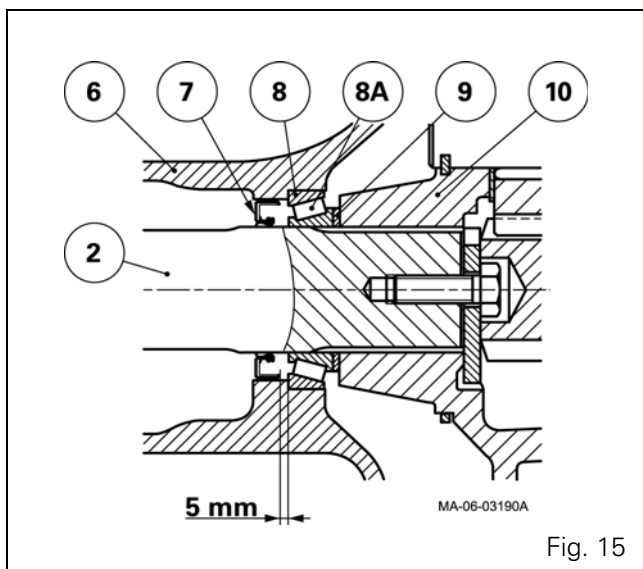

Fig. 15
With shaft replacement (2): position the seal 5 mm from the shoulder of the cup (8) (Fig. 15).
70. Lubricate the cups (8) (5) and fit them home against the shoulder.